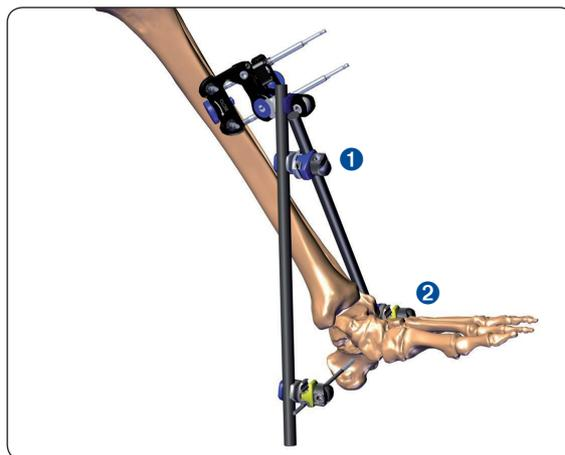

Fig. 16
Connect this clamp (1) to a second (lateral) Transition Clamp (99-93030) (2) using a second Rod. (Fig. 16)